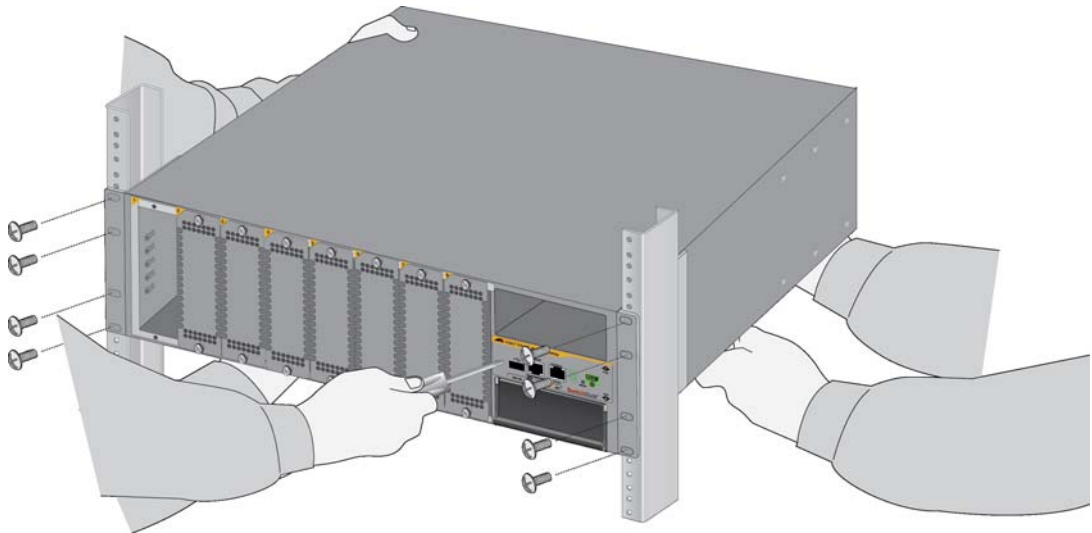

Figure 28. Securing the Chassis to the Equipment Rack
3. Have two other people hold the chassis in the equipment rack at the desired location while you secure it using eight standard equipment rack screws (not provided). Refer to Figure 28.